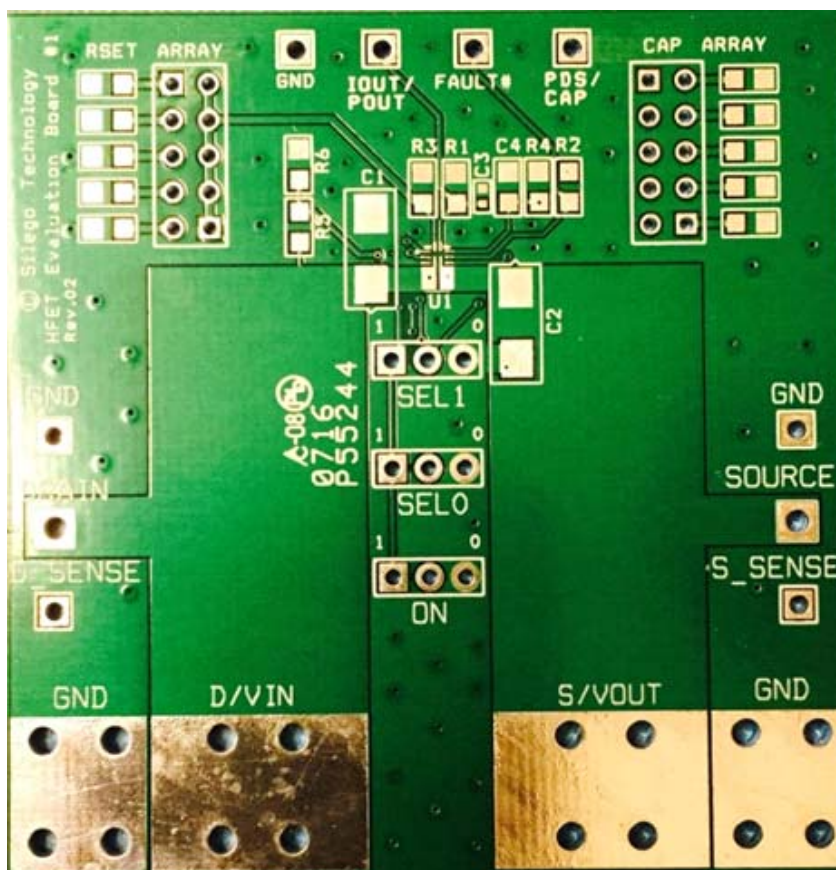

Figure 17. SLG59H1006V Evaluation Board
1. Since the VIN and VOUT pins dissipate most of the heat generated during high-load current operation, it is highly recommended to make power traces as short, direct, and wide as possible. A good practice is to make power traces with an absolute minimum widths of 15 mils (0.381 mm) per Ampere. A representative layout, shown in Figure 17, illustrates proper techniques for heat to transfer as efficiently as possible out of the device;
A HFET1 Evaluation Board for SLG59H1006V is designed according to the statements above and is illustrated on Figure 17. Please note that evaluation board has D\_Sense and S\_Sense pads. They cannot carry high currents and dedicated only for  $R_{DS(on)}$  evaluation.